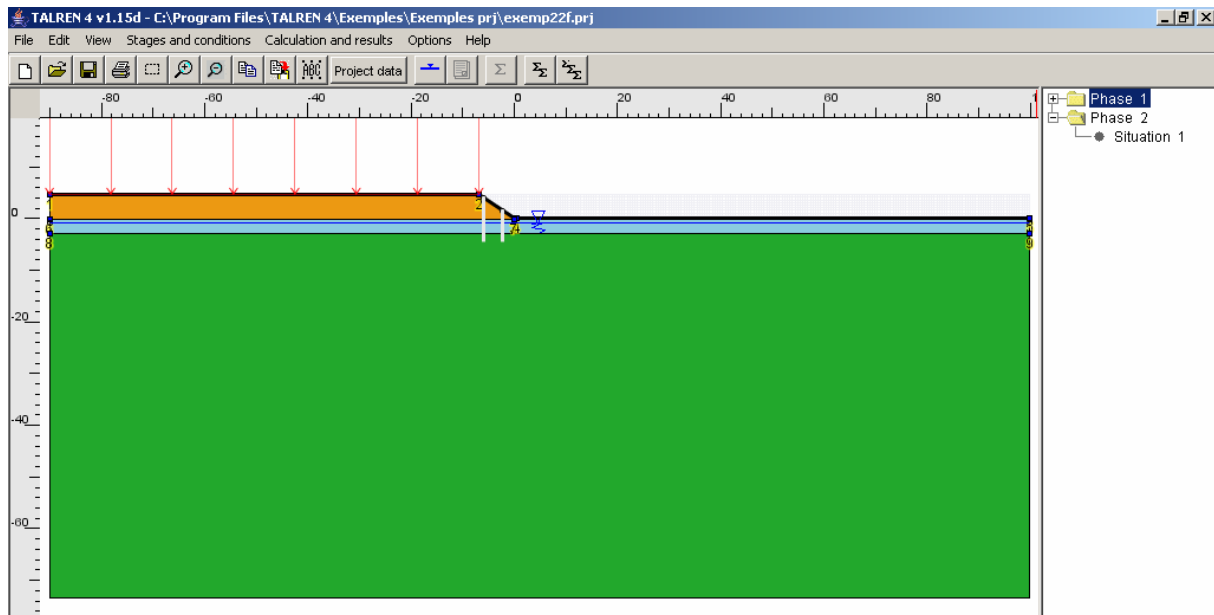

Figure 55: *examp22e.prj* file, definition of stage 1 (without piles)
- Talren 4 inserts a new stage in position 1. It is initialised identically to the project data configuration (because it is inserted before stage 1), i.e. with all soil clusters activated, reinforcements and loads deactivated, and without any hydraulic conditions. It is therefore necessary to activate the load (click on the load base line), and define the hydraulic conditions (phreatic level): click on the toolbar button , select option “Phreatic level” then click on the button “Define phreatic level”, and define a water table at level -1.00, from  $X_{min}$  to  $X_{max}$  (like before). The definition of stage 1 is displayed on Figure 55.